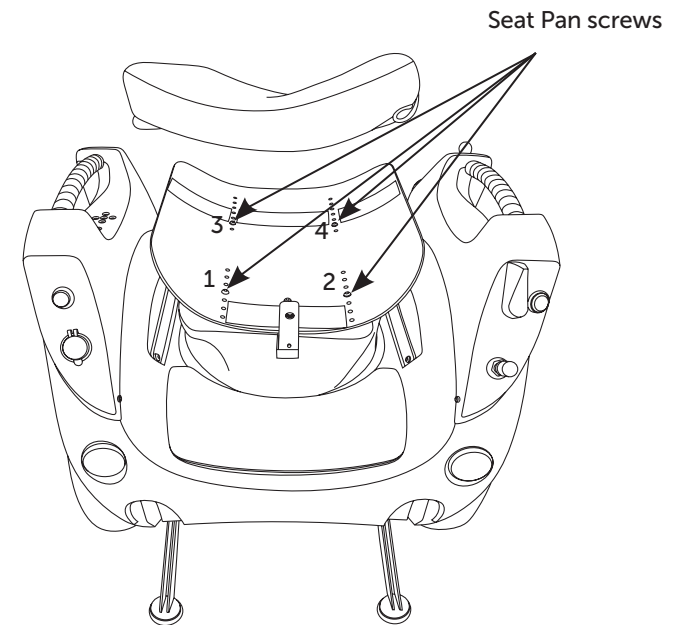

Figure 43: Adjusting the Seat Pan.
2. Remove the 4 screws from the top of the Seat Pan as shown in **Figure 43**
2. Undo and remove the four mounting screws from the top of the Seat Pan (*Figure 43: Adjusting the Seat Pan, Pg. 88*)